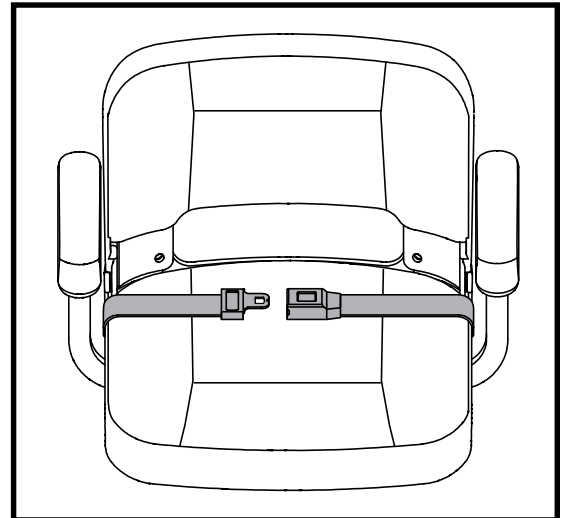

Figure 16. Positioning Belt - Metal Tab Style
1. Insert the metal tab on the right side of the belt into the plastic housing on the opposite strap until you hear a “click.” See figure 16.